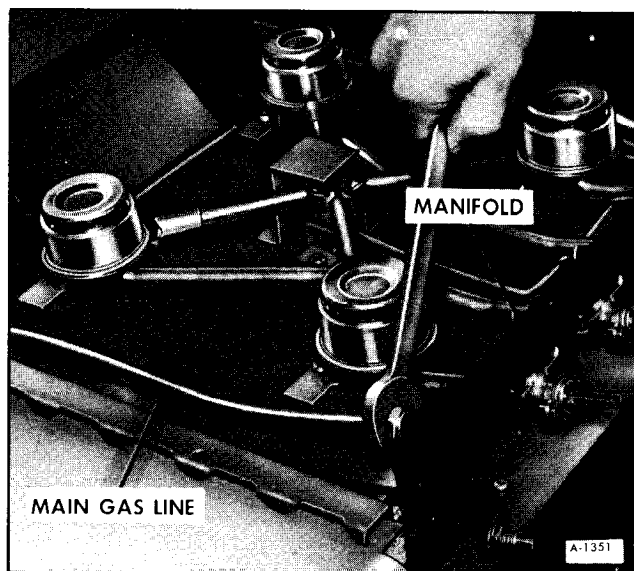
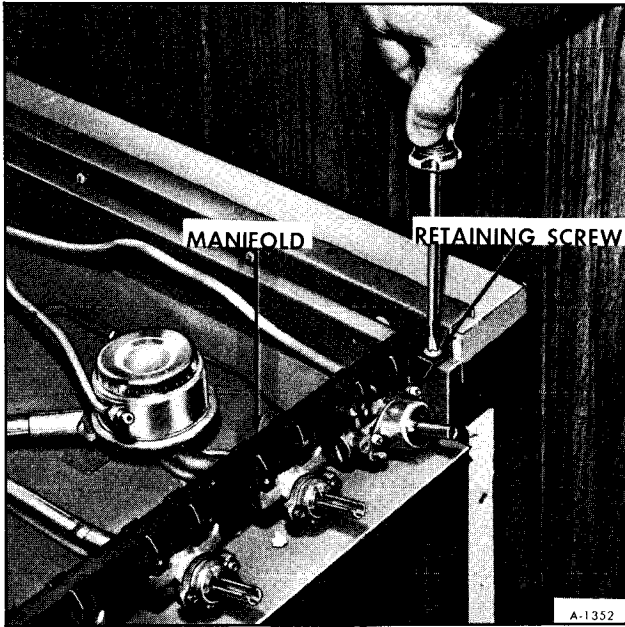

Figure 11—Disconnecting Main LP Gas Line
Figure 12-Removing Manifold Retaining Screws
7. Disconnect the main fuel line from the manifold and remove the two screws holding manifold in place (one at each end) (figure 11 and figure 12).
5. Disconnect the main fuel line from the manifold and remove the two screws holding the manifold in place (one at each end) as shown in Figures 11 and 12.
2. Disconnect gas line from manifold (figure 11).